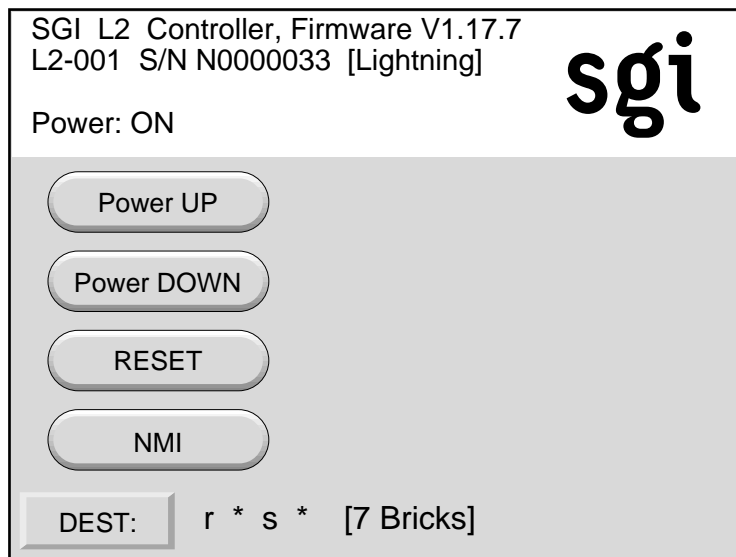

Figure 1-6 Home Window
1. Select **Power UP** from the home window shown in Figure 1-6.